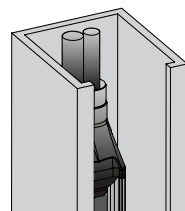

Figure 7: GridScan/Pro SI with door blanking (blanking mode)
- ▶ Mount the receiver edge into the guiding rail next to the door control unit (Figure 7).